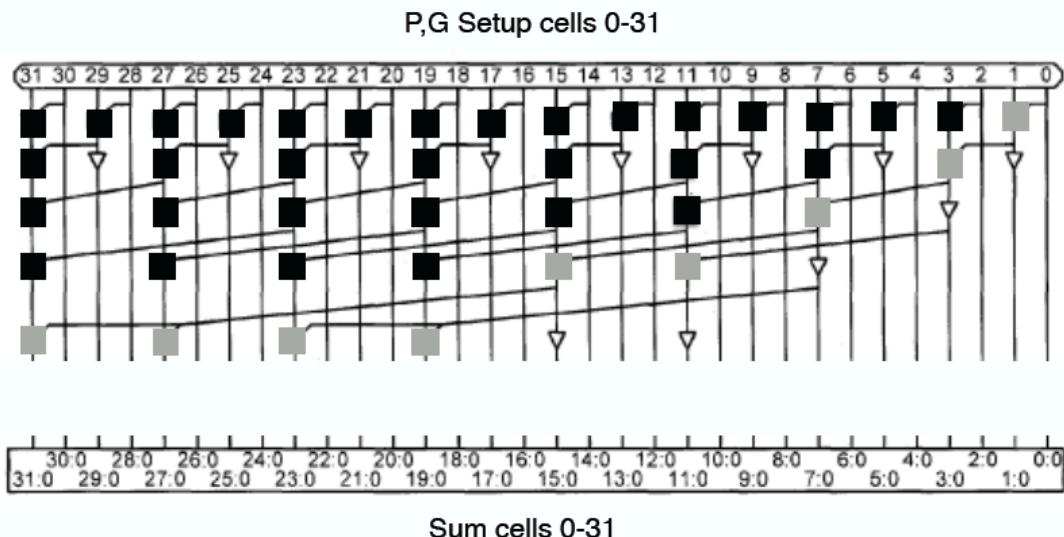

Figure 7: A 32-bit prefix adder of an unknown type where part of the tree is missing.
In Figure 7 you see a figure of a prefix adder of an unknown type. The part that is drawn in detail is only the PG tree structure.
- If we assume just straight lines in the white space at the bottom of the tree in Figure 7, which of the 32 sum bits cannot be formed from the tree as shown in Figure 7? (2 p)
d) Assume (not quite correctly) that all black and grey PG cells have the same propagation delay, called 1 unit delay. Which of the 32 sum bits will then be last ones to be done in your solution from task c)? List ALL of the sum bits that have this the longest propagation delay. What is this the longest propagation delay through the prefix-adder tree expressed in unit delays? Ignore the buffers (triangles) shown Figure 7 when you find these critical paths. (3 p)